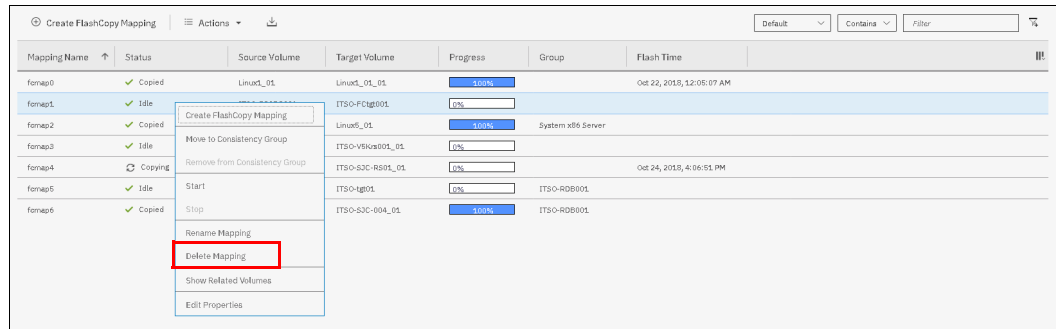

Figure 10-54 Mapping delete
2. Select the FlashCopy mapping that you want to delete, and right-click, as shown in Figure 10-54.